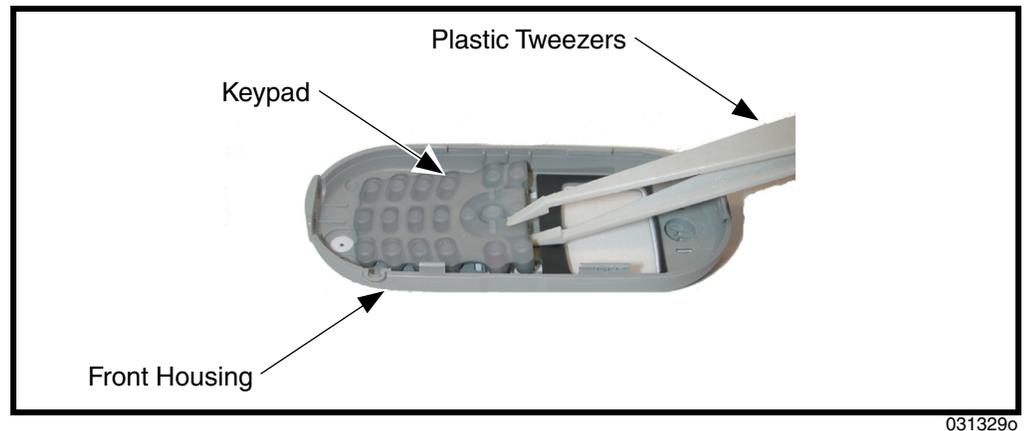

Figure 12. Removing the Keypad
2. Lift the keypad from the front housing as shown in Figure 12.